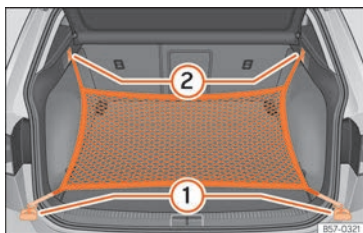

Fig. 124 In the luggage compartment: rings ① and hooks ② for attaching the net bag.
- Secure the short net hooks to the fastening rings »»» Fig. 124 ① »»» ⚠. The bag zip should be facing upwards.
- Secure the straps in the bag hooks ②.